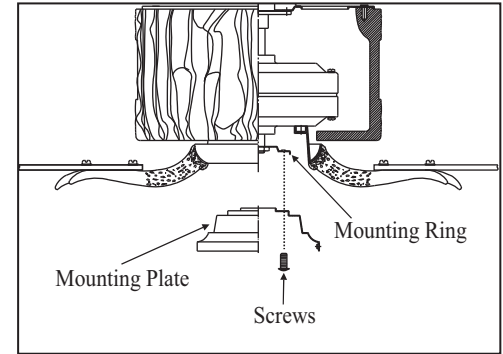

Figure 16
2. Place the key holes on the mounting plate over the 2 screws previously loosened from the mounting ring, turn mounting plate until it locks in place at the narrow section of the key holes. Secure by tightening the 2 screws previously loosened and the one previously removed. (Fig. 16)